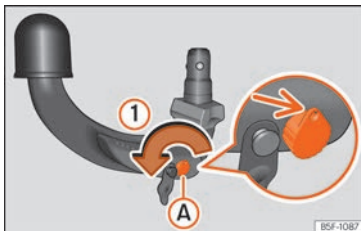

Fig. 292 Step 1.
- Turn the key in the direction of arrow ① until the part of the key with the holes reaches the top position »» Fig. 292 (arrow).